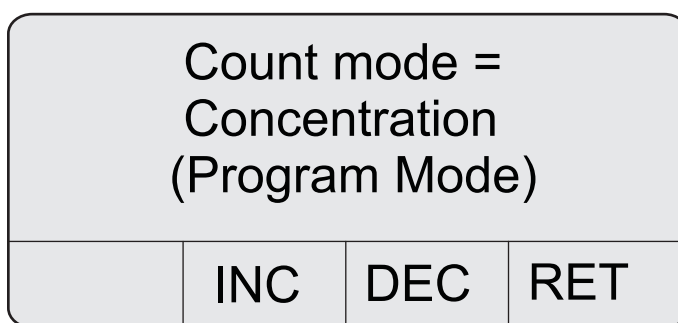

Figure 20 Count mode screen
2. Press **2 (NXT)** to display the Count mode screen (refer to Figure 20).